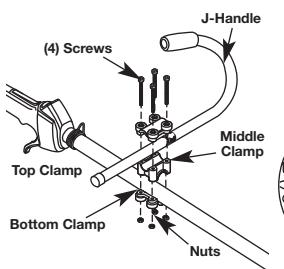
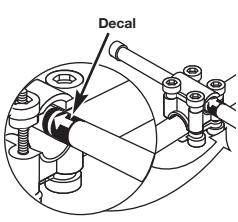

Fig. 1
Fig. 2
- Place the J-handle between the top and middle clamp pieces (Fig. 1).
- While holding the three pieces together, install the four (4) screws through the top clamp and into middle clamp.
- Slide the J-handle in or out until the arrow/white line on the decal touches the clamp assembly (Fig. 2). You must first loosen the screws if the handle is pre-installed.